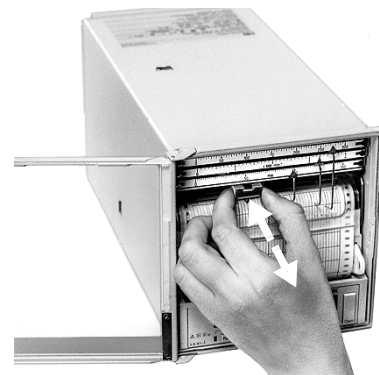

Figure 12 Installing, removing the print insert
3. Install the print insert in the recording carriage (see Figure 12)